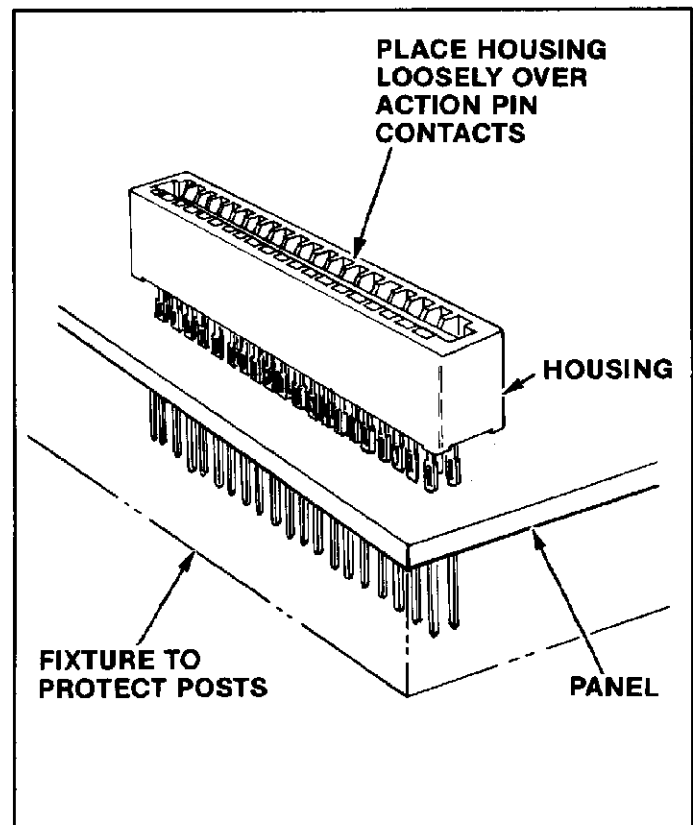

Fig. 2
2. Place AMP PACE or ECONOMATE I connector housing loosely over corresponding ACTION PIN contacts already installed in pc board or panel. See Figure 2.